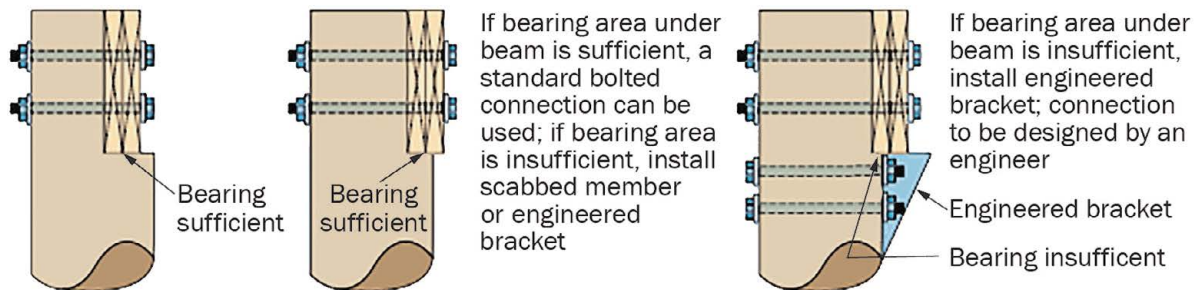

Figure 3.1.10. Improve connections—select approaches to address minor wood pile-to-beam misalignments.
- Use corrosion-resistant techniques to improve wood pile-to-beam connections, including the use of corrosion-resistant connectors and fasteners. Make small notches in piles or add engineered support brackets to handle minor wood pile-to-beam misalignments (Figure 3.1.10).